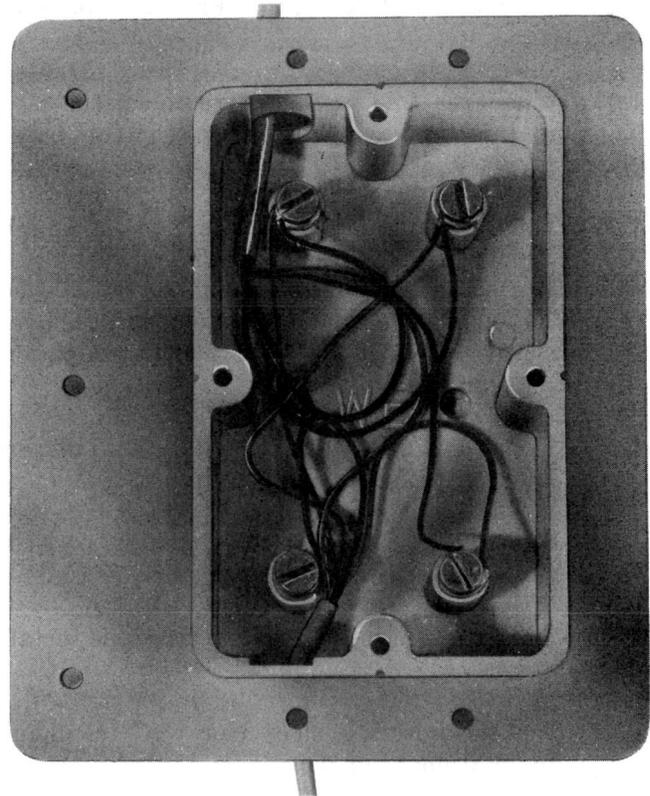

Fig. 1—800A Station Wire Box
1.03 The 800A station wire box is made of a high impact plastic with four terminal points inside and a mounting flange around the outer edge (Fig. 1). The box is designed to complement the one-stop prewire concept of the "Customer Participation Products" plan.